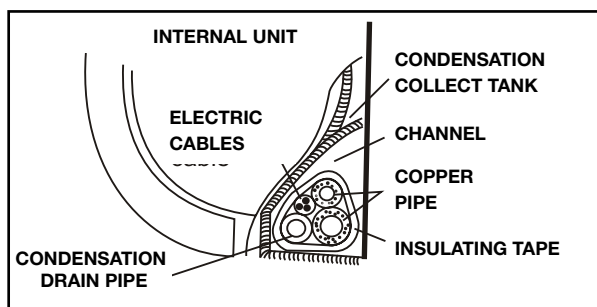

fig.8
5. Wrap the copper pipes, the electrical cables and the condensation drainage pipe together with insulating tape, taking care to ensure that the drainage pipe is as low as possible so as to facilitate drainage. When the unit is operating in cooling mode, condensation collects in it inside a tank, from which the drainage pipe starts. Make sure that this tank is free and does not contain waste materials (fig. 8).